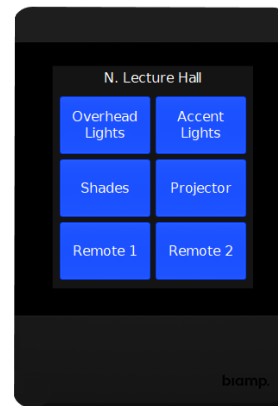

Figure 8. 6-Button Layout
- The Tesira software allows for multiple pages each with unique icons, text, button color, etc. Figures 8 and 9 show examples of color and layout.